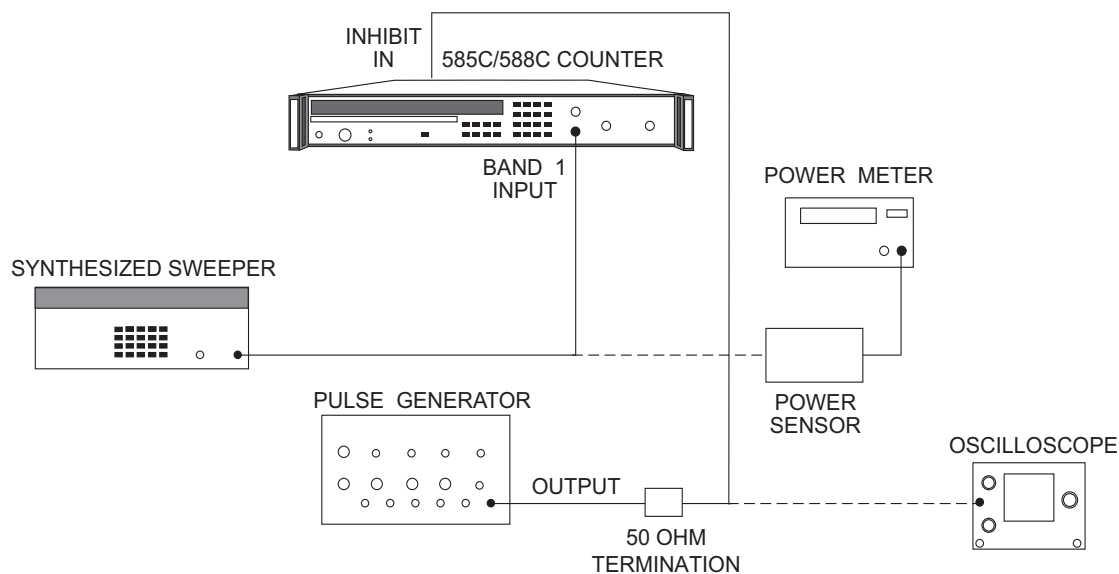

Figure 6-3. Band 1 Range and Sensitivity Test Setup
1. Connect equipment as shown in Figure 6-3.